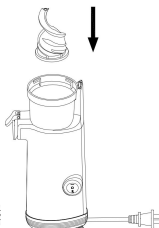

Fig 2
2. Push the squeezing auger firmly into the center of the bowl, making sure that it touches down the bottom, or else the cover cannot be closed. (Fig 2)